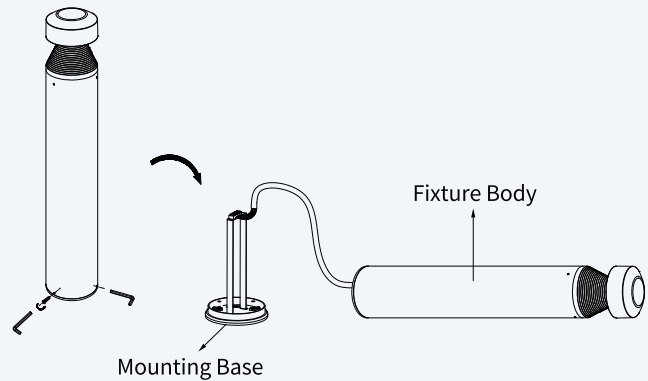

Fig 6
7. Using the hex wrench, loosen the 3 screws on the side of the bottom, and separate the fixture body from the mounting base. **Fig. 6**